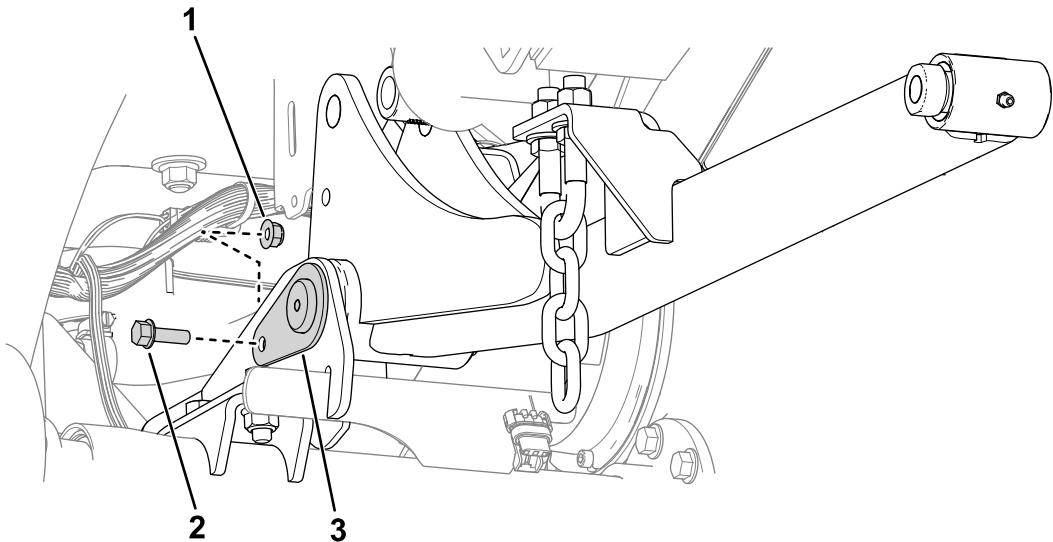

Figure 6
4. Use 2 nuts (5/16 inch) and 2 bolts (5/16 x 1 inch) to secure the large pins to the frame (Figure 6).